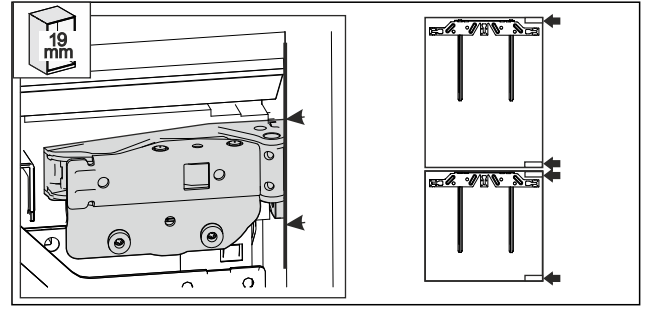

Fig. 49 *
- 19 mm thick cabinet side wall: The front edge of the hinges is aligned straight with the front side of the cabinet side wall. Fig. 49 ()